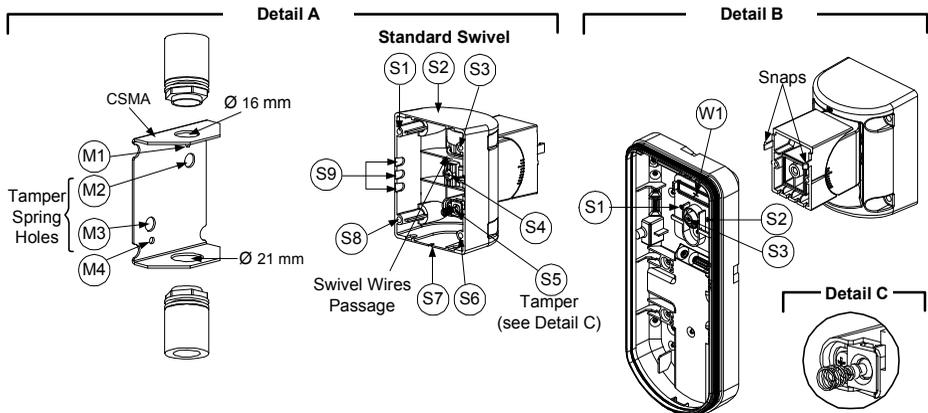

Figure 7
3. Open knockouts on external base (Figure 7, Detail B)
4. On the swivel accessory remove the required swivel cable wiring knockout S2, S7 or S9 (Figure 7, Detail A).
5. Remove back tamper from the internal base (see “Changing Back Tamper Position” paragraph) and connect it to S5 (Figure 7, Detail A) on the Standard Swivel.
- a. Insert external cable wiring through knockouts S2, S7 or S9 and extract them (including the tamper wires) through the Swivel Wires Passage (Figure 7, Detail B).
Swivel Conduit Mounting (using optional Conduit Metal Swivel Adaptor – CSMA, Figure 7, Detail A)
- d. Insert external cables and tamper wires from the conduit through the swivel wires passage of the swivel (Figure 7, Detail A).
The Tamper spring S5 (Figure 7) should make contact with the wall through the tamper spring holes M2 or M3 on the CSMA. Make sure to hear the tamper "Click" when connecting to the wall.
7. Insert tamper wires and external cable wiring from Standard Swivel through knockout W1 on the external base (Figure 7, Detail B).